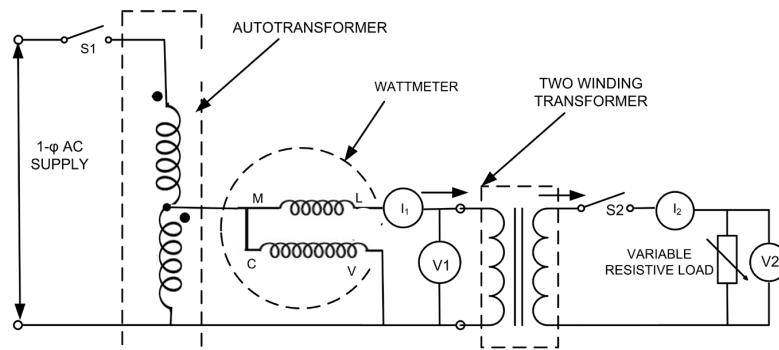

Fig. P5.1: Circuit diagram for determining transformer parameters
1. Connect the circuit as shown in Fig. P5.1.